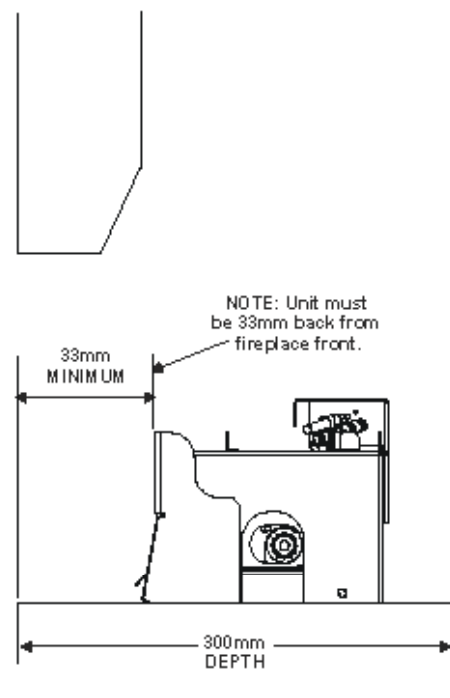

FIGURE 1
STEP 2: Ensure that tabs on front and rear surrounds are bent as shown in Figure 1. Carefully remove logs from carton and place as shown.